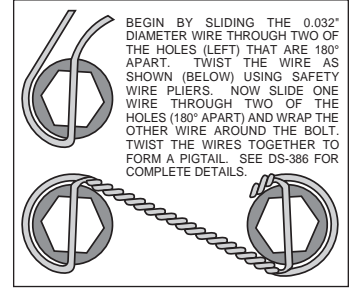

Figure 3. Safety Wire Diagram
- The hat/rotor assembly (5) has been pre-assembled at the factory using red *Loctite*[®] 271 on the mounting bolts and torqued to specification. For an added measure of security, the bolts may be safety wired using standard 0.032 inch diameter stainless steel safety wire as shown in Figure 3. Please refer to Wilwood's data sheet DS-386 (available at www.wilwood.com/Pdf/DataSheets/ds386.pdf) for complete safety wire installation instructions.